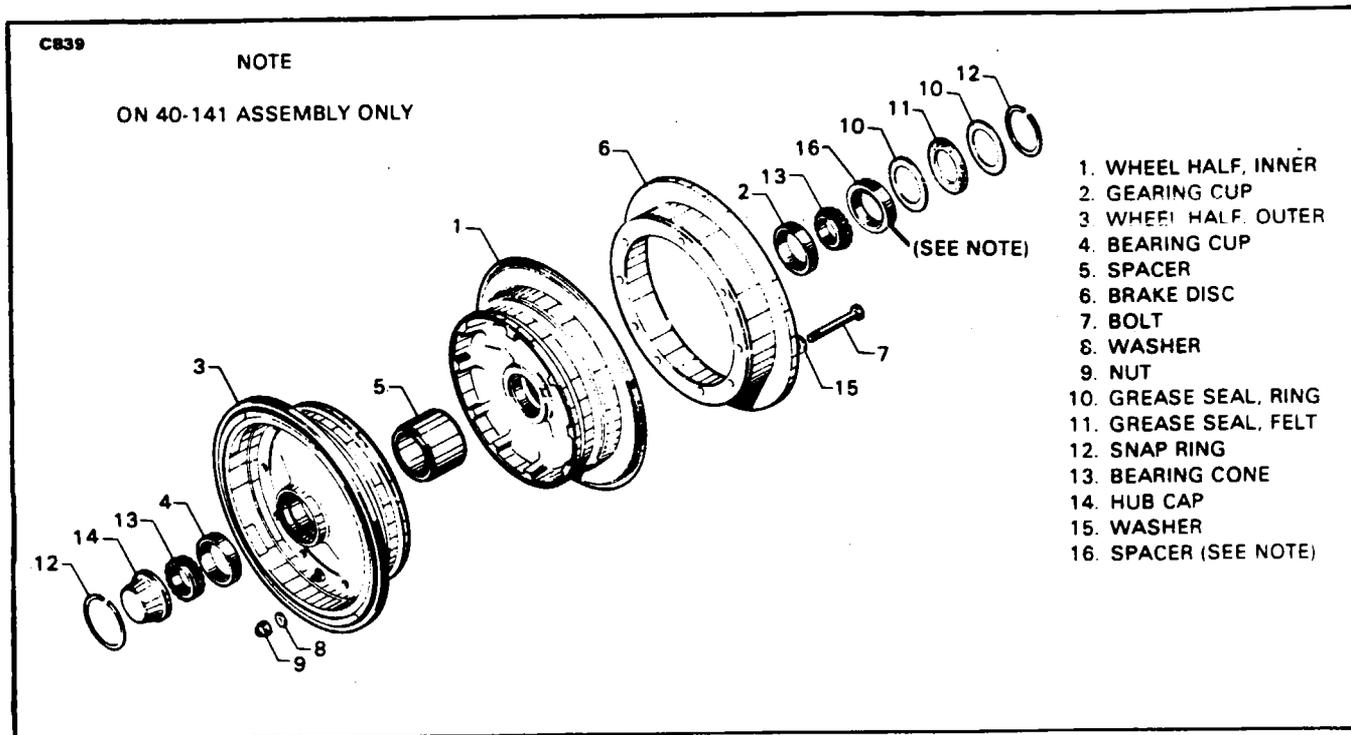

Figure 32-14. Main Wheel Assembly (Cleveland 40-130 and 40-141)
**REMOVAL AND DISASSEMBLY OF MAIN WHEEL. (Refer to Figure 32-14.)**
- (1) To replace a new cup apply one coat of zinc chromate primer to wheel half bearing bore.
- (2) Insert wheel half into boiling water for 15 minutes or place in an oven not exceeding 250° F (121° C) for 15 minutes. Chill new bearing cup in dry ice for a minimum of 15 minutes.
- (3) Remove wheel half from source of heat and bearing cup from the dry ice. Install the chilled bearing cup into the gearing bore of the heated wheel half. Tap gently to seat evenly in place, using a fiber drift pin or suitable arbor press.
**ASSEMBLY AND INSTALLATION OF MAIN WHEEL.** (Refer to Figure 32-14.)
3. Place outer wheel half into tire and pull tube valve stem through valve hole. Turn tire and outer wheel half over and place the spacer (refer to Figure 32-14) and inner wheel half into position and align the bolt holes with the outer wheel half and the brake disc. Install bolts through the brake disc and inner wheel half and washers and nuts on the outer wheel half. Torque wheel nuts per recommended torque value on name plate of wheel.